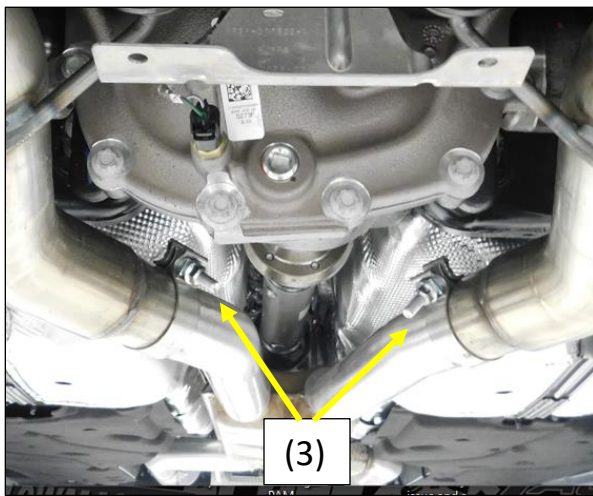

Figure 8
2. Install the supplied band clamp (3) on to the inlet of the Flowmaster Axle-Back muffler assembly with the bolt to the inside and nut facing down (**Fig. 8**).
5. Slip the muffler assembly over the OEM exhaust pipe approximately 3 inches and support the muffler (**Fig. 8**).